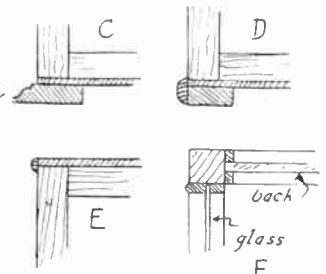

Fig. 3—Base and cover joints
Glass will be required for front and ends of the case, but for the back, wood can be substituted. The detail (F) in Fig. 3 shows the back, which can be of plywood or substitute board, fitted in and kept in place with a plain slip of wood outside. The outside glass beading is of $\frac{3}{16}$ in. by $\frac{1}{2}$ in. section wood, the outer edges of which are neatly rounded. Cut and mitre them to fit each panel
At the edges of the base a $\frac{3}{8}$ in. by $1\frac{1}{2}$ in. moulding can be mitred round, fixed with glue and screws, as at (C) in Fig. 3. This by the way covers only the front and ends, the back being a plain strip, level with the bottom of the case, and not extending beyond. Alternatively, a plain $\frac{3}{8}$ in. by $1\frac{1}{2}$ in. strip of wood can be used here, with a half-round or moulded strip covering the edges of both strip and bottom, as at (D). The moulded strip is omitted at the back of the case.